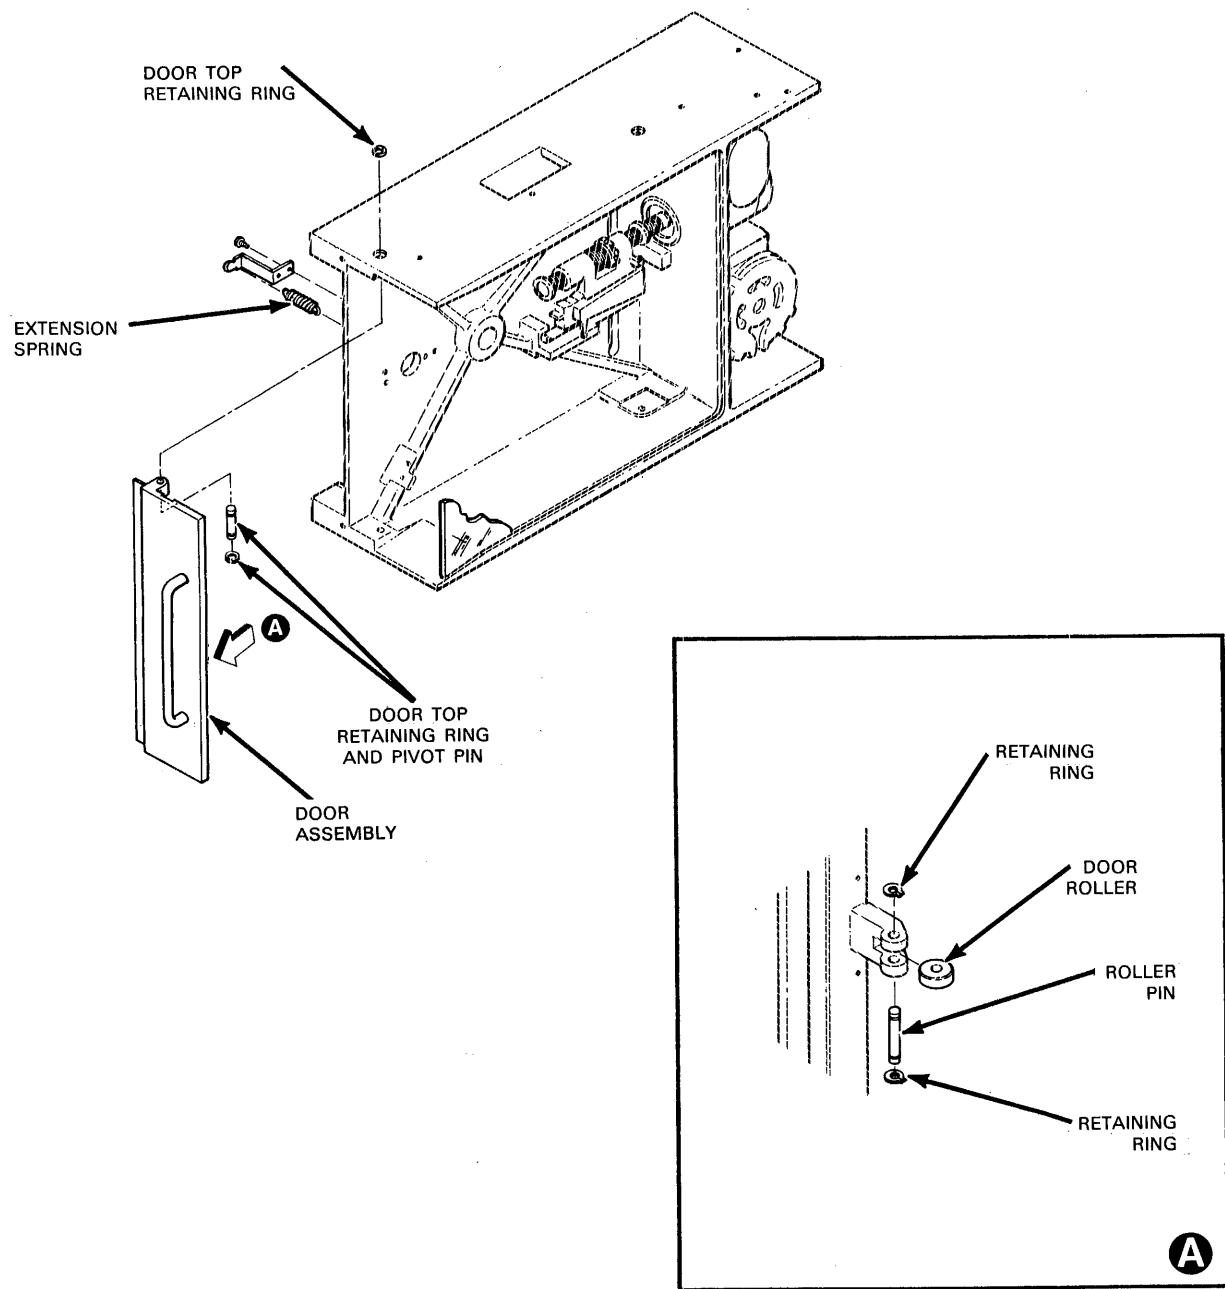

Figure 5-15. Door Assembly Removal and Replacement
1. Disconnect and remove extension spring (Figure 5-15).
1. Swing cartridge guide out on pivots (Figure 5-15).